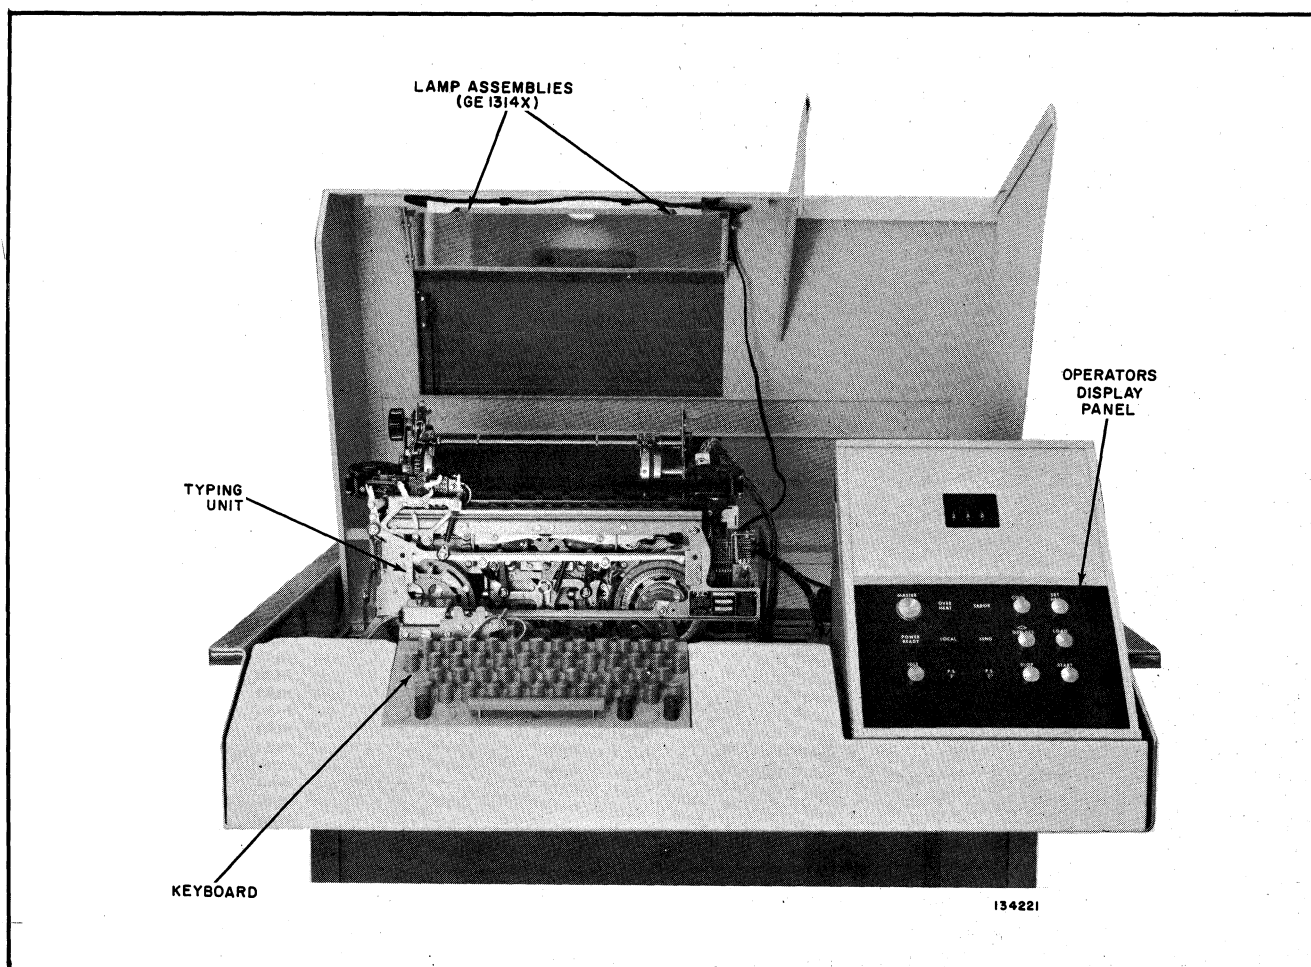

Figure 21. 70/97 Operator Console (Top Cover Ass'y Raised)
2. Remove the defective lamp by pushing and turning it counter-clockwise until the lamp is released from the bayonette type socket. (See Figure 21.)